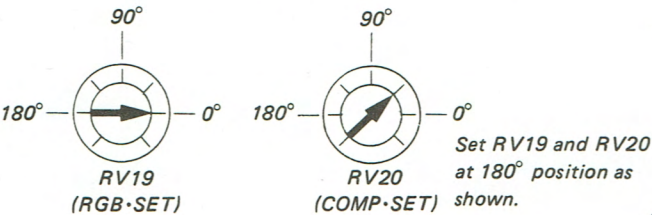

Fig. 32-2.
3. Set RV19 (RGB. SET) and RV20 (COMP. SET) on DD Board as shown in Fig. 32-2.